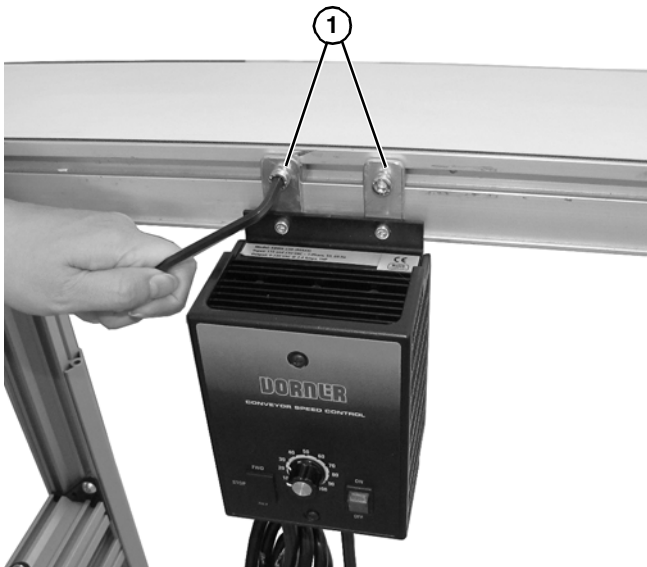

Figure 21
3. Attach controller to conveyor with two screws (**Figure 21, item 1**).